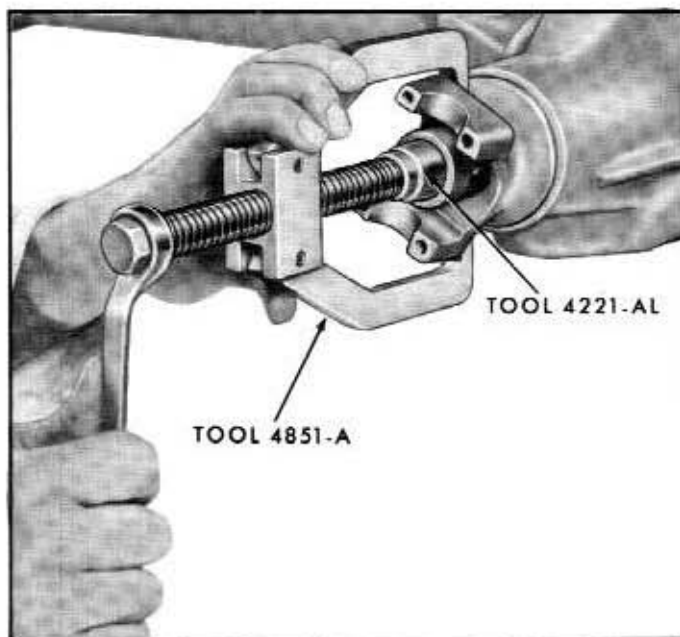

Fig. 4-8—Drive Pinion Flange Removal—(61CM-5205)
5. Remove the pinion flange with tool 4851-A and 4221-AL as shown in figure 4-8.
10. Remove the pinion flange. Refer to figure 4-8.